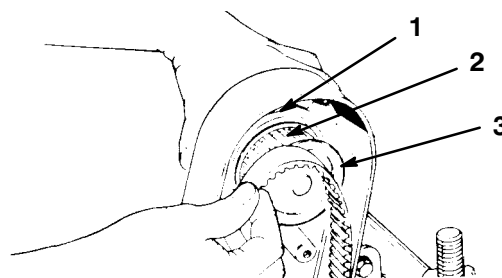

**Figure 10**
2. Discard shipping cover and install the drive plate shield onto the reel drive motor flange (Fig. 10). Be sure the widest portion of the shield is at the top.